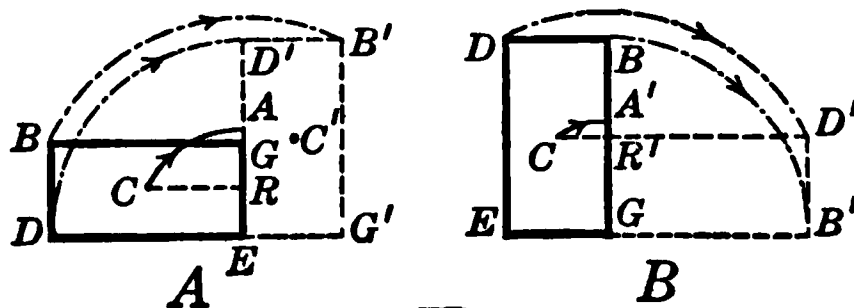

FIG. 104. — Stability increases with area of base.
118. Stable Equilibrium. If an object is in stable equilibrium, it cannot be overturned without first raising its center of gravity. If slightly tipped, it tends to return to its former position. The blocks shown in Fig. 104 are both in stable equilibrium, but their degree of stability differs. To overturn block (*A*) about the edge *E*, the center
of gravity C must be raised to the point A . When the center of gravity passes beyond the vertical line AE , so that it falls outside the base, the block will be overturned and fall to the position shown by the dotted lines. The same block, standing on end as in Fig. 104 b , is also in stable equilibrium, but it is not so hard to overturn it as when it lies flat on its side. In position (A) the center of gravity must be lifted the vertical distance RA before it can be overturned; in position (B) the center of gravity must be lifted from R' to A' before it can be overturned. RA is much greater than $R'A'$, hence the greater stability when the block lies on its side. *The stability of an object may be increased by enlarging the base and by having the center of gravity as low as possible.*